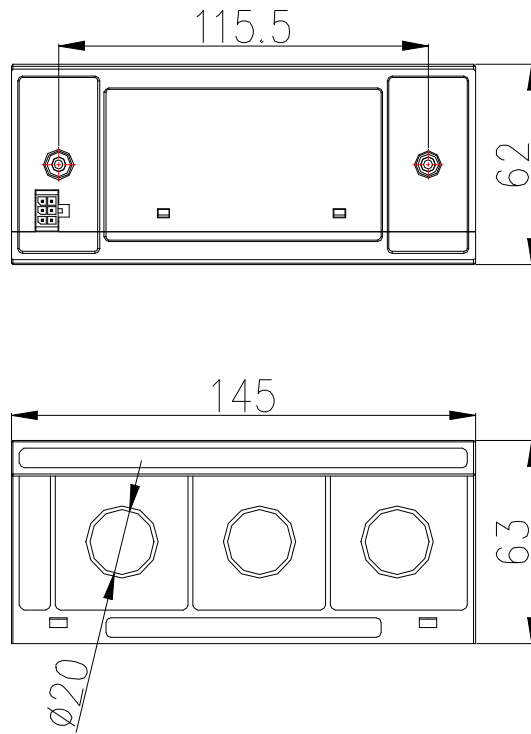

Figure 5 The external dimensions of Integrated/split current transformer (100A and below current specification)
5.3.1 The external dimensions of Integrated/split current transformer (100A and below current specification) are shown in figure 5 (Unit: mm):